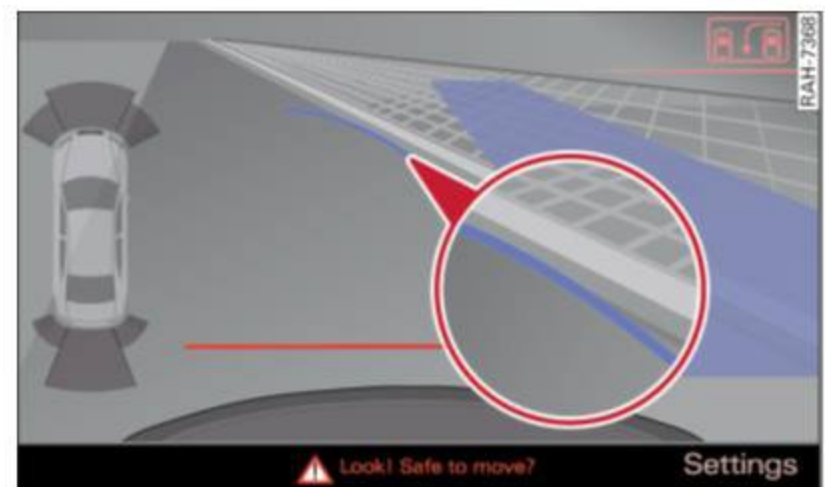

Fig. 115 MMI Display: Blue curve on the curb
- ▶ Back into the parking spot. Stop the vehicle as soon as the blue curve touches the curb ⇒ *fig. 115*.
- ▶ Continue to back up into the parking spot until the vehicle is parked parallel to the curb. ③ marks the rear bumper. You should stop driving in reverse as soon as and no later than when the red orientation line ④ abuts an object ⇒ ⚠! Keep an eye on the front of your vehicle while doing this ⇒ ⚠!
When there is an obstacle (such as a wall) next to the parking spot, choose a spot with more space on the sides. Position the long side of the blue area so that there is sufficient space from the curb. The area must not be on the curb. You will also need to start turning the steering wheel much earlier. There should be a sufficient amount of space between the curb and the blue curve, and the blue curve ⇒ *fig. 115* must **not** touch the curb.